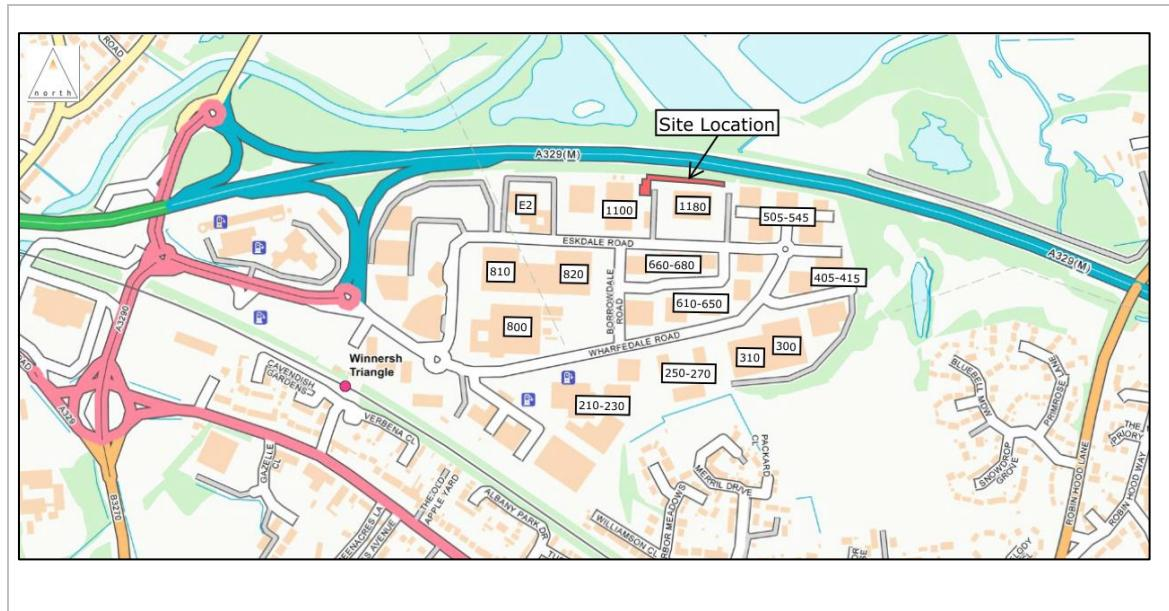

Figure 2.1 – Winnersh Triangle - Site location of proposed EV Charging Points
2.1 The site currently comprises of 54 car parking spaces that serve Building 1180 to the south, the site location in relation to Winnersh Triangle is included in Figure 2.1.